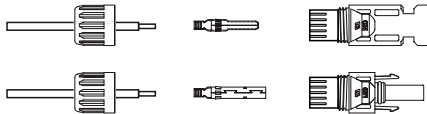

Figure 4.8 Disassemble the Connector Cap nut
1. Strip off the DC wire for about 7mm, Disassemble the connector cap nut. (see Figure 4.8)